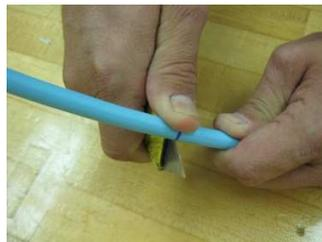

Figure 2 – Ring cut using a razor knife.
4.2 Alternatively, the cable can be ring cut with a razor knife. **Use extreme caution when ring cutting with a razor knife** (Figure 2).